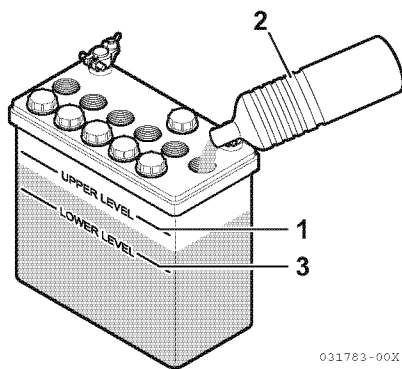

Figure 5-8
- When the amount of fluid nears the lower limit (**Figure 5-8, (3)**), fill with distilled water (**Figure 5-8, (2)**) so it is at the upper limit (**Figure 5-8, (1)**). If operation continues with insufficient battery fluid, the battery life is shortened, and the battery may overheat and explode. During the summer, check the fluid level more often than specified.